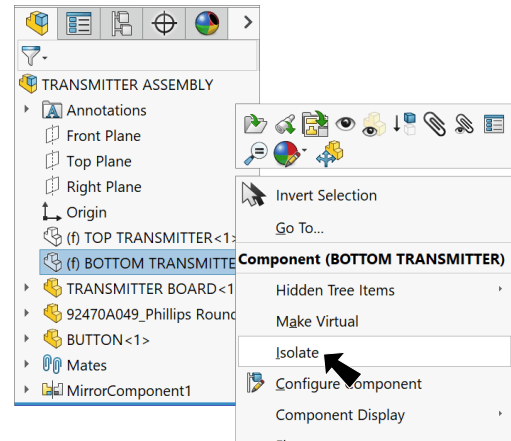

Fig. 25
Step 1. **Isolate Bottom Transmitter**  part, Fig. 25. To Isolate, **right click Bottom Transmitter** in Feature Manager and click **Isolate** from menu.